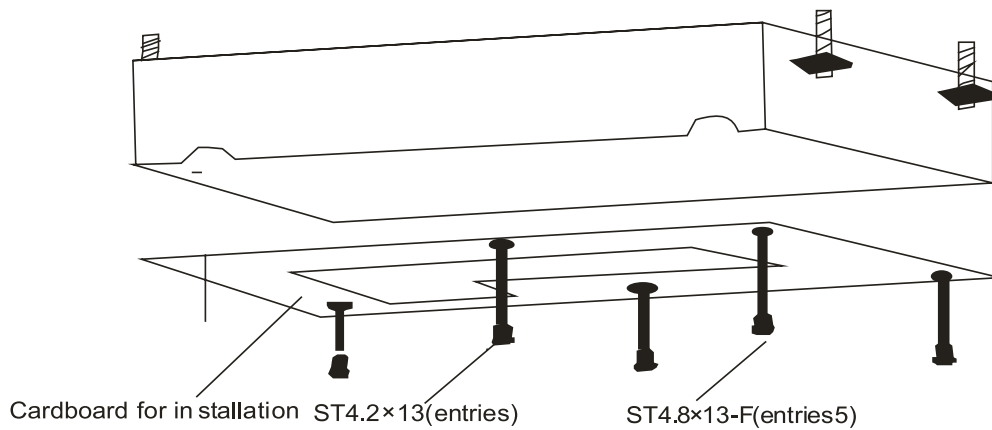

Fig.3
- Use screws to fix the installation cardboard on the unit. (refer to Fig.3)